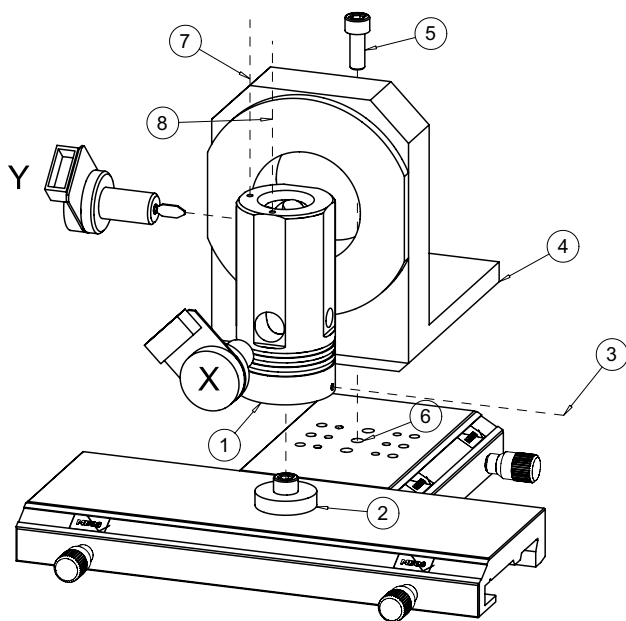

Fig. 10: Assembling of Module A
For transport safety reason the sensitive and costly scanners are dismantled, so that after unpacking the system they have to be mounted to its holder Fig. 10 (1).